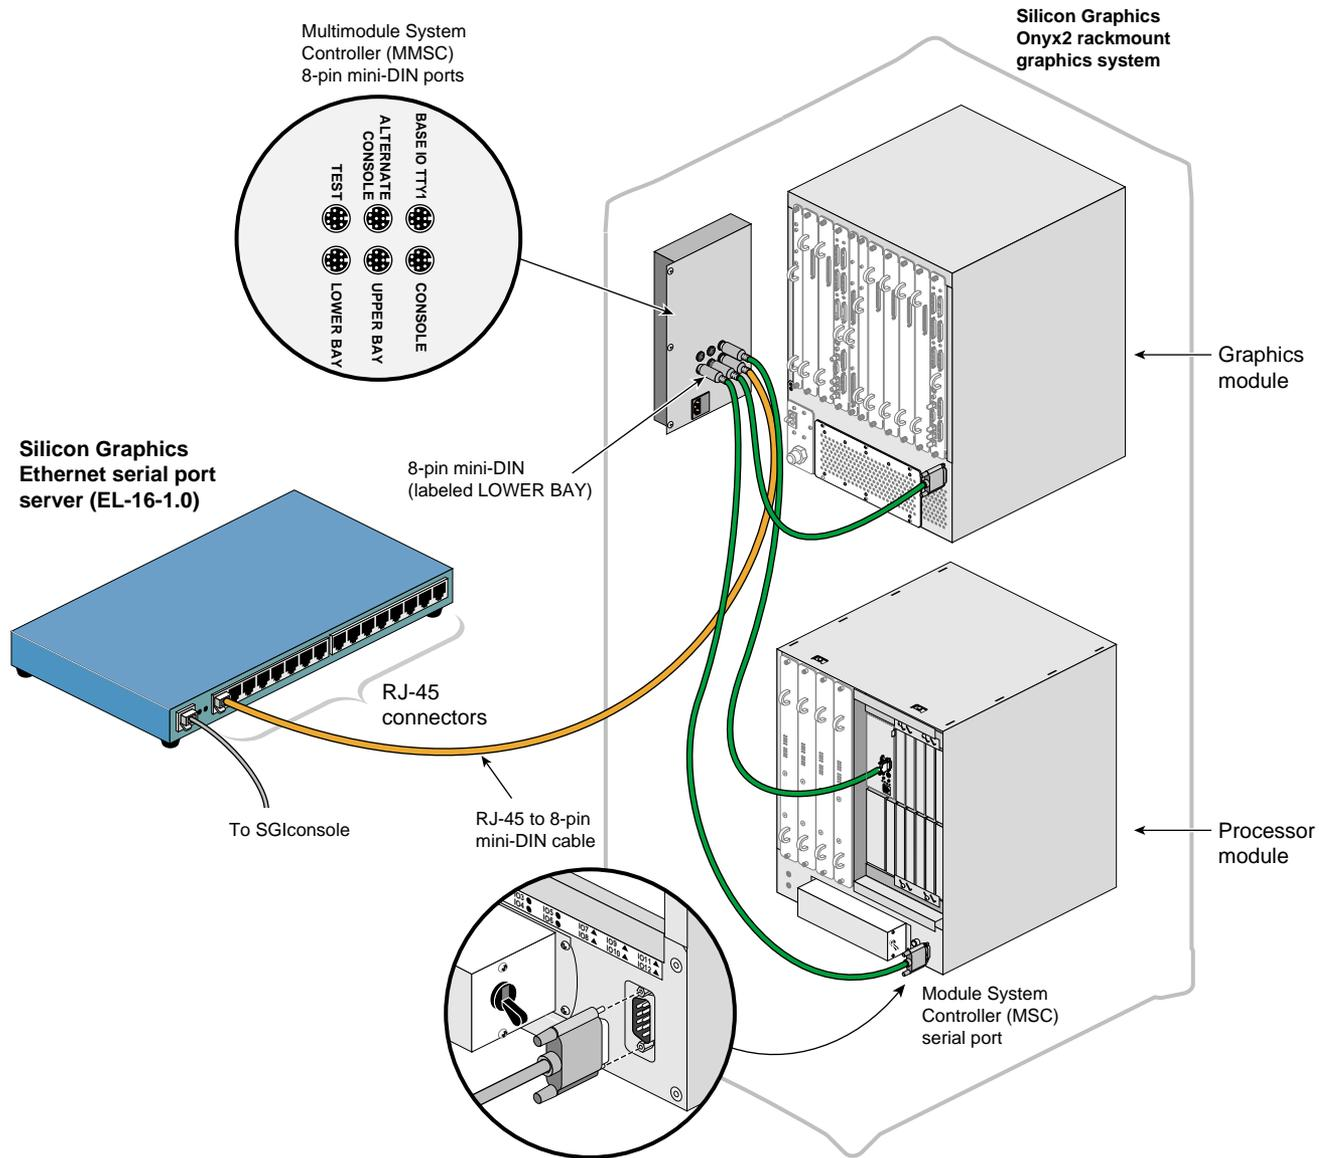

Figure 2-47 Connecting the MMSC Lower Bay Connector to the Processor Module MSC Serial Port
8. Connect the 8-pin mini-DIN connector of the third 8-pin mini-DIN to DB-9 cable to the MMSC connector labeled "Lower Bay." Connect the DB-9 connector end of the same cable to the Module System Controller (MSC) serial port connector of the Silicon Graphics Onyx2 rackmount graphics system processor module located in the lower bay of the rack. See Figure 2-47.